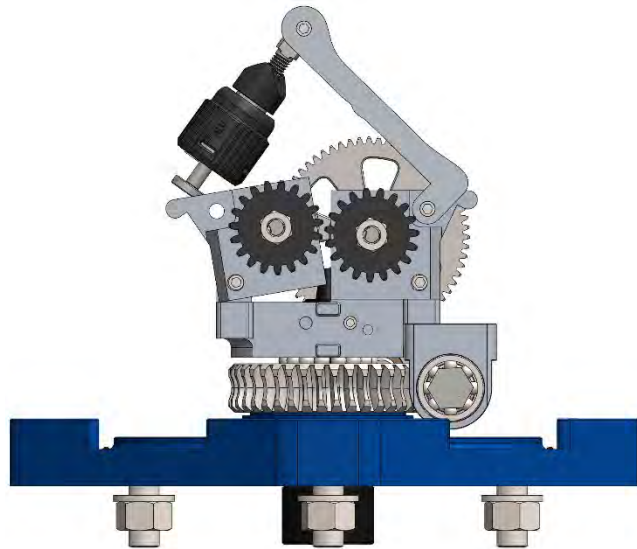

Figure 17
3. Lift the closing lever in order to open the twister wheels and rest the knob in its seat. Figure 17;